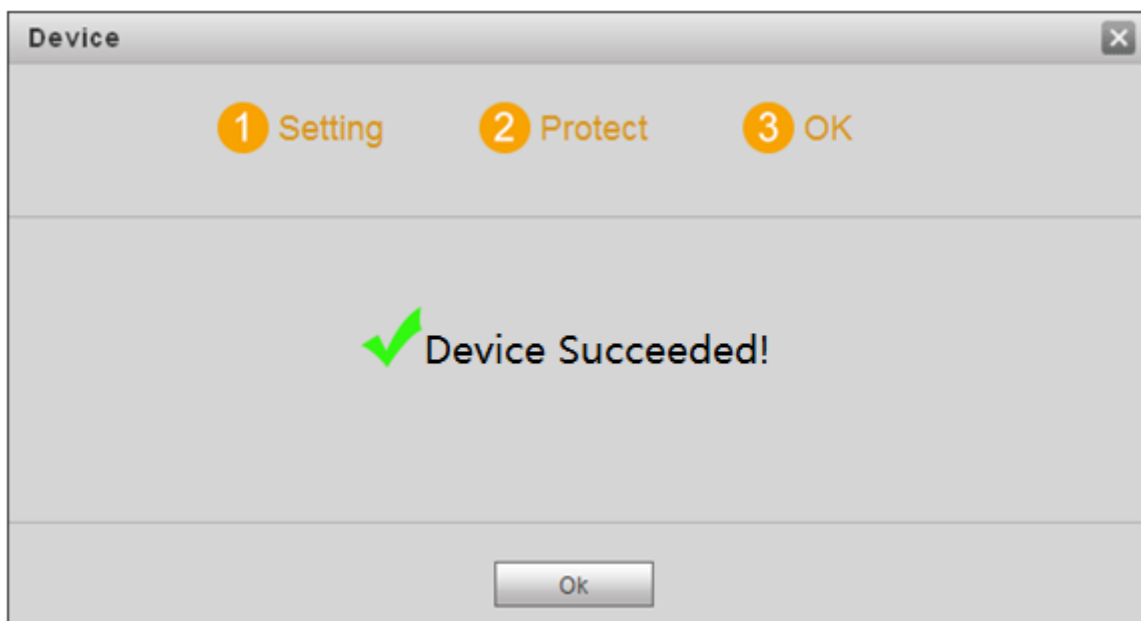

Figure 7-3
Step 4 Click “Next”. The system displays “OK” interface, as shown in Figure 7-3 and shows “Device succeeded!”